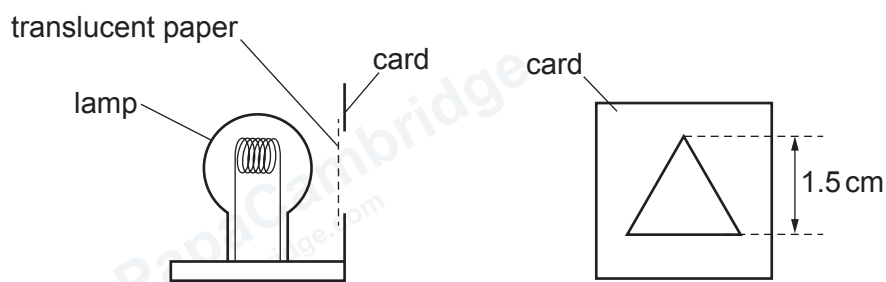
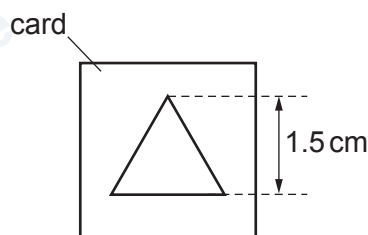

Figure 3.1
Figure 3.2
- (ii) Illuminated object with a triangular hole of height 1.5 cm (see Figure 3.1 and Figure 3.2). The hole is to be covered with thin translucent paper (e.g. tracing paper). See notes 1 and 2.